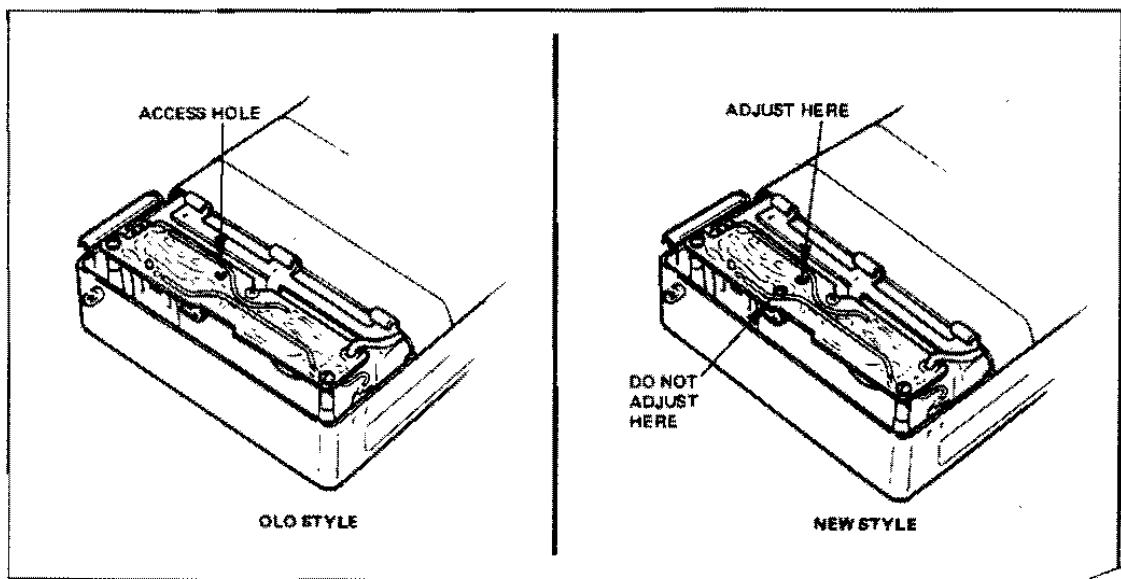

FIG. 4-19 ADJUSTMENT OF OLD AND NEW STYLE CONVERTER
- c. Using a tool which can fit through the access hole on the converter circuit board, adjust the potentiometer so the meter reading falls within the 350 to 365 vdc range. Old style boards have one access hole while newer boards have two. Figure 4-19 shows the access point on both old style and new style converter circuit boards.